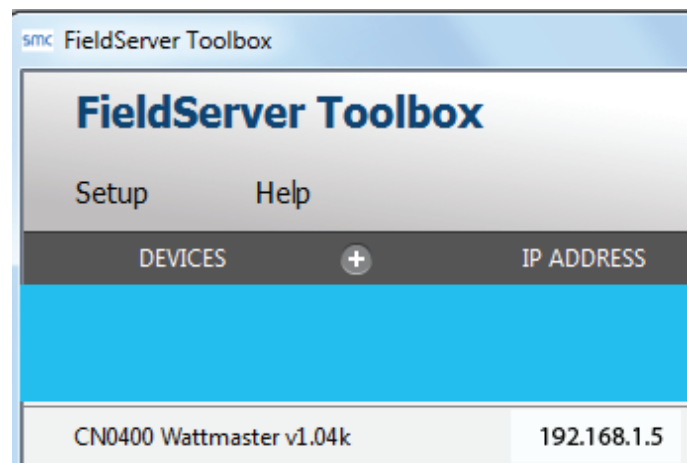

Figure 33: FieldServer Toolbox
5. Once launched, the FieldServer Toolbox will automatically discover the attached PT-Link (this operation may take a minute). If the connected device does not display, review the section "IP Address Configuration" to make certain your PC is on the default network as required to communicate with the PT-Link. See **Figure 33**.